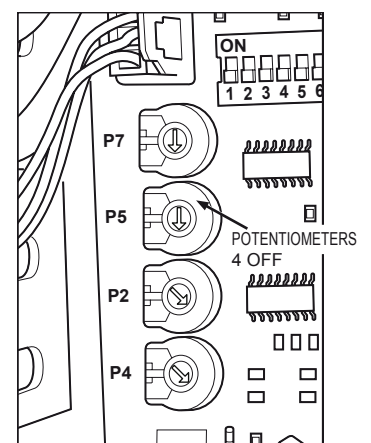

Figure 15.2
15.3 255 seconds delay setting: The boiler is capable of up to 255 seconds ignition delay (anti cycling time) before re-ignition following burner shut down on the primary hydraulic water reaching its set temperature. This delay can be increased up to a maximum of 255 seconds by turning potentiometer P5 (Figure 15.2) clockwise.